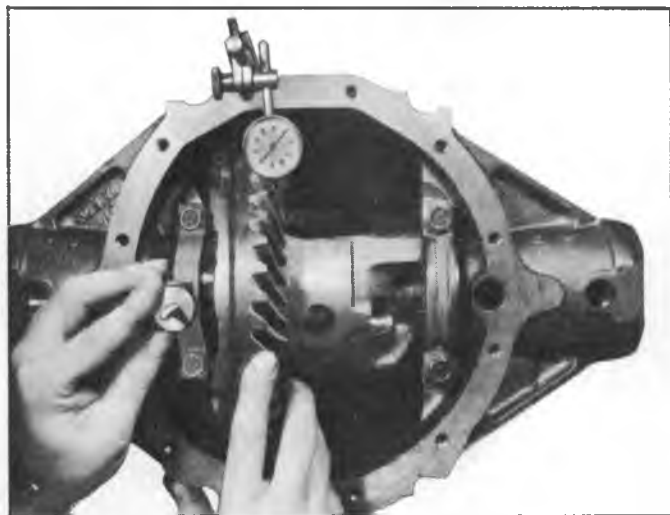

Fig. 19A—Installing Gauging Tool
4. With the ring gear tight against the pinion gear (.000" to .001" backlash) insert gauging Tool J-22779 between the left bearing cup and carrier housing. See Figure 19A.